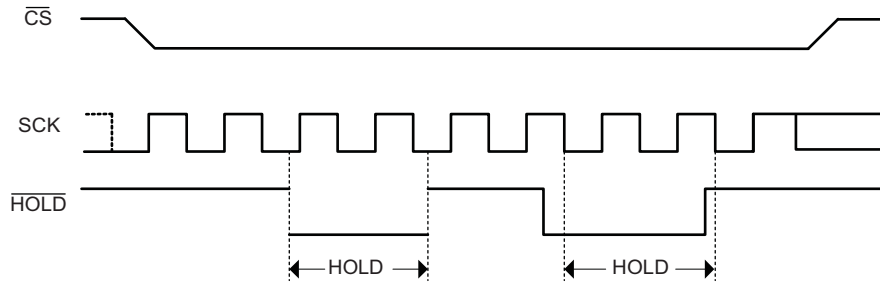

Figure 2. Hold Condition Activation
The Hold condition starts when the Hold ( $\overline{HOLD}$ ) signal is driven low at the same time as Serial Clock (SCK) already being low (as shown in Figure 2).
The Hold condition ends when the Hold ( $\overline{\text{HOLD}}$ ) signal is driven High at the same time as Serial Clock (C) already being low. Figure 2 also shows what happens if the rising and falling edges are not timed to coincide with Serial Clock (SCK) being low.